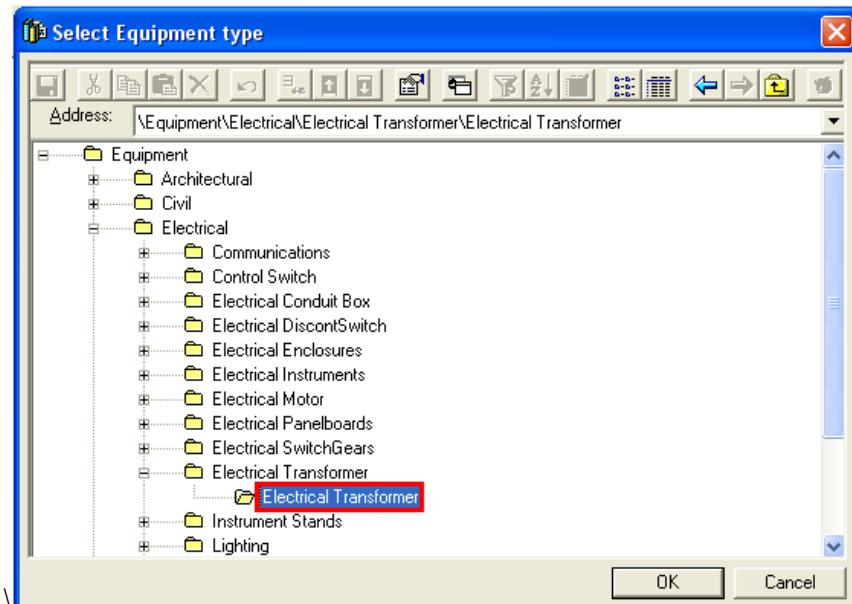

Figure 40: Required Equipment Type Selected
4. The **Select Equipment Type** dialog box opens. In the dialog box expand **Equipment > Electrical > Electrical Transformer > Electrical Transformer** to select the required design equipment, as shown in Figure 40.